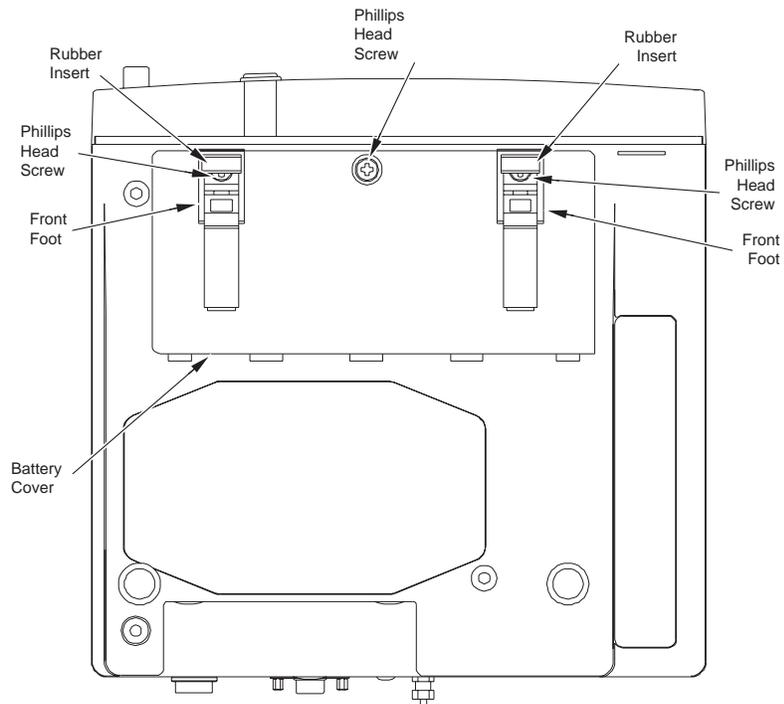

Figure 7-1: Battery Removal
4. Remove the rubber inserts from the feet by pulling the inserts straight up (see "Figure 7-1: Battery Removal"). There is a Phillips-head screw beneath each insert.